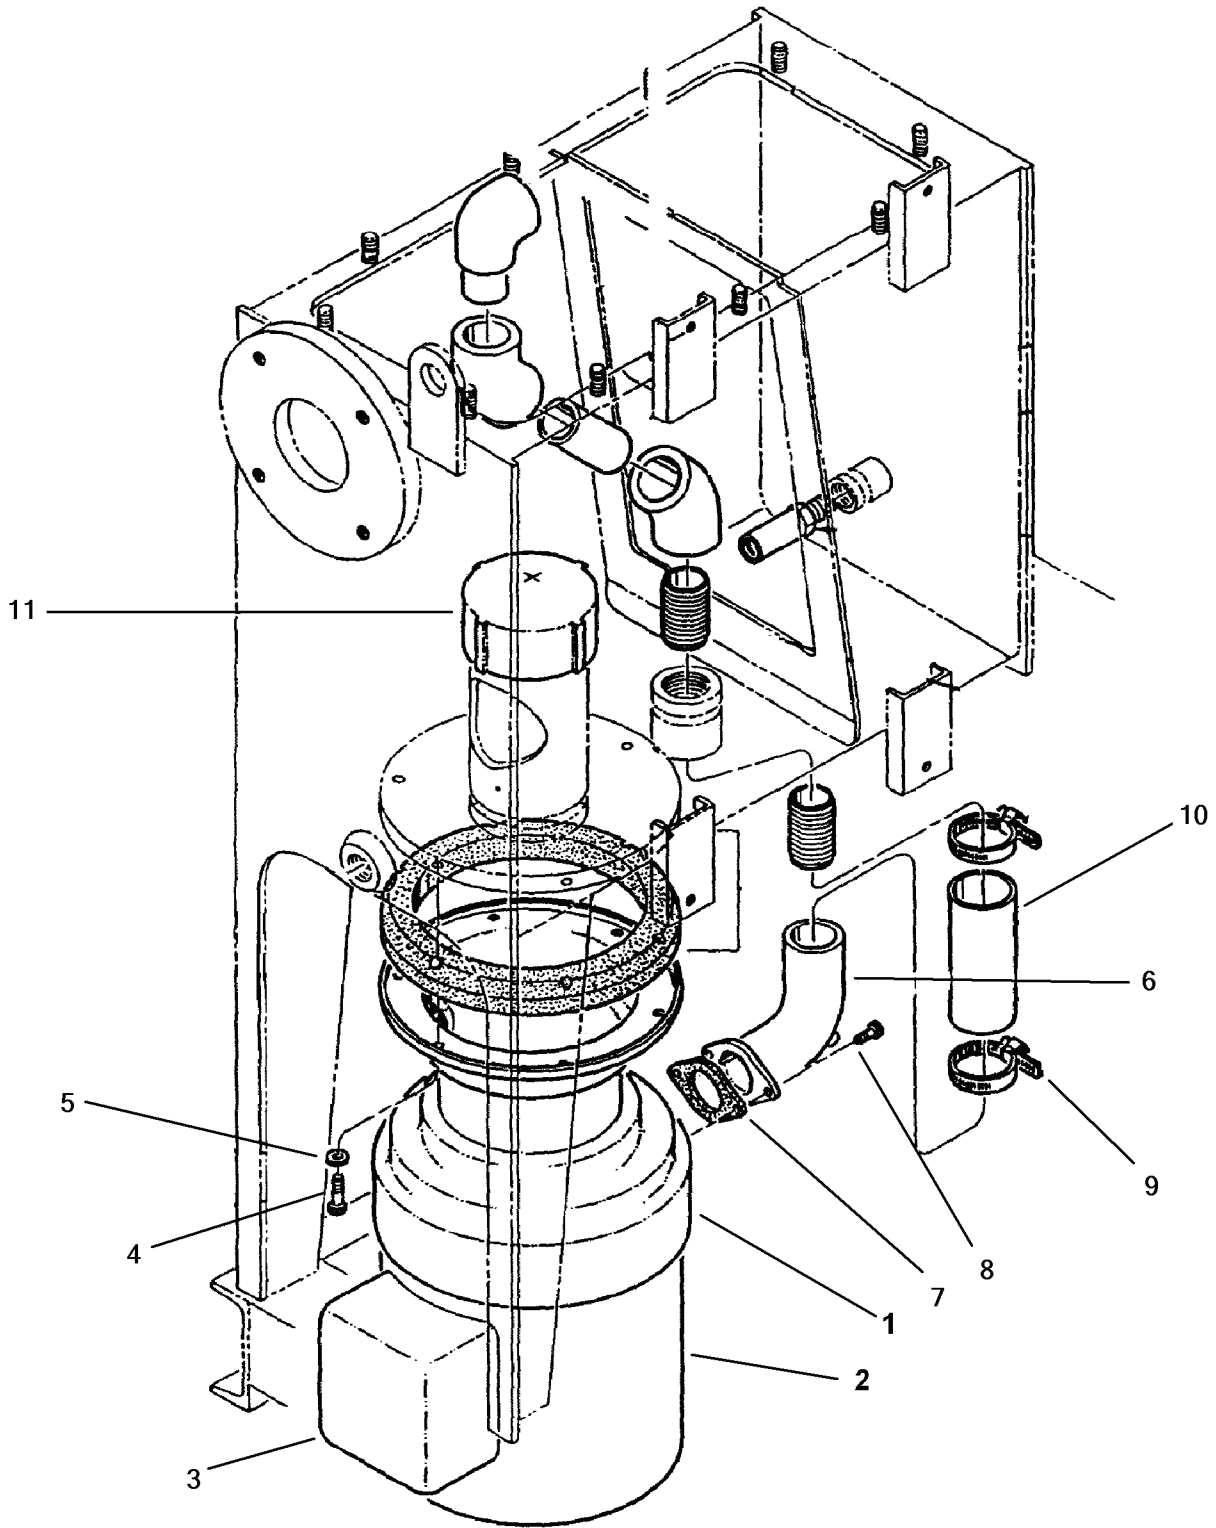

Figure 2-19. Macerator Connections.
**2-18. Macerator Pump Assembly. (Figure 2-19)**
- b. Remove cap (11, Figure 2-19) using a chain wrench.
See Figure 2-19 and proceed as follows:
- b. Install macerator (2, Figure 2-19) using capscrews (4) and washers (5), finger tight only.
- c. Position hose (10) and clamps (9) and connect to nipple and elbow (6), finger tight only.
- d. Reconnect elbow (6) and gasket (7) with capscrews (8), finger tight only.
- e. Tighten capscrews (4) finger tight only, alternately to ensure proper alignment of gasket and macerator. Tighten capscrews (8) to secure the elbow (6). Tighten clamps (9) around hose (10).